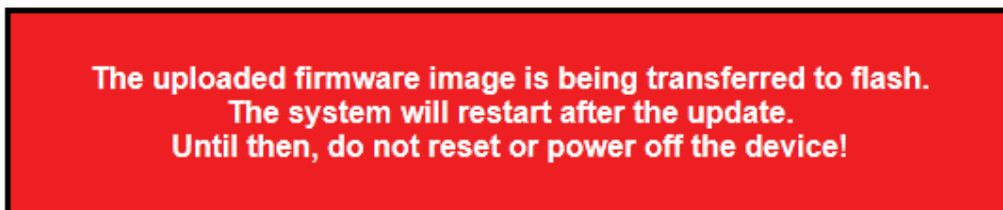

Figure 4-2-19: Web Firmware Upgrade Page Screenshot
This page facilitates an update on the firmware controlling the **Industrial Managed Switch**. The Web Firmware Upgrade screen in Figure 4-2-19 appears.
2. The Firmware Upgrade screen is displayed as in Figure 4-2-19.